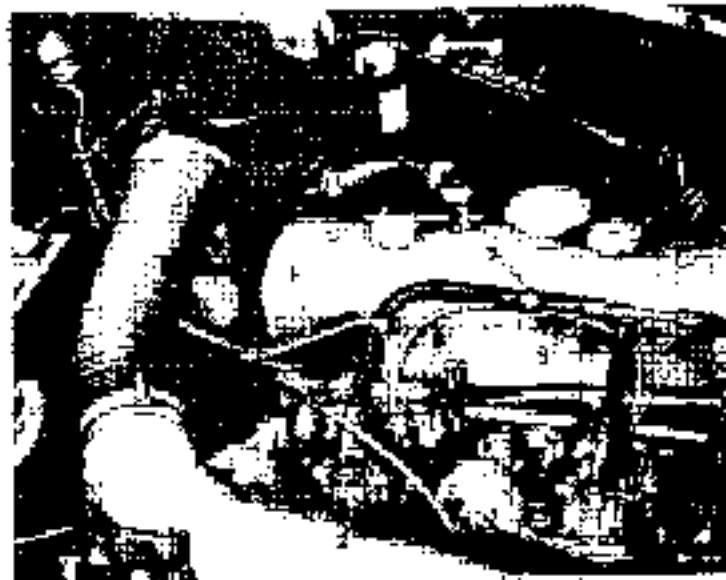

Fig. 07-0:57
2. Connect the two idle cut-out valves by a cable 400 mm long and fasten the cable to the fuel line with a cable holder. Lay a cable 1100 mm long from the idle cut-out valve of the rear carburetor along the hot-start control cable to the cow and then lay the cable, together with the lead of the flash signal mechanism through the rubber grommet into the interior of the cow and to the fuse box. Then fix the cable to the hot-start control cable and the fuel line by four cable holders (Fig. 07-0:57).